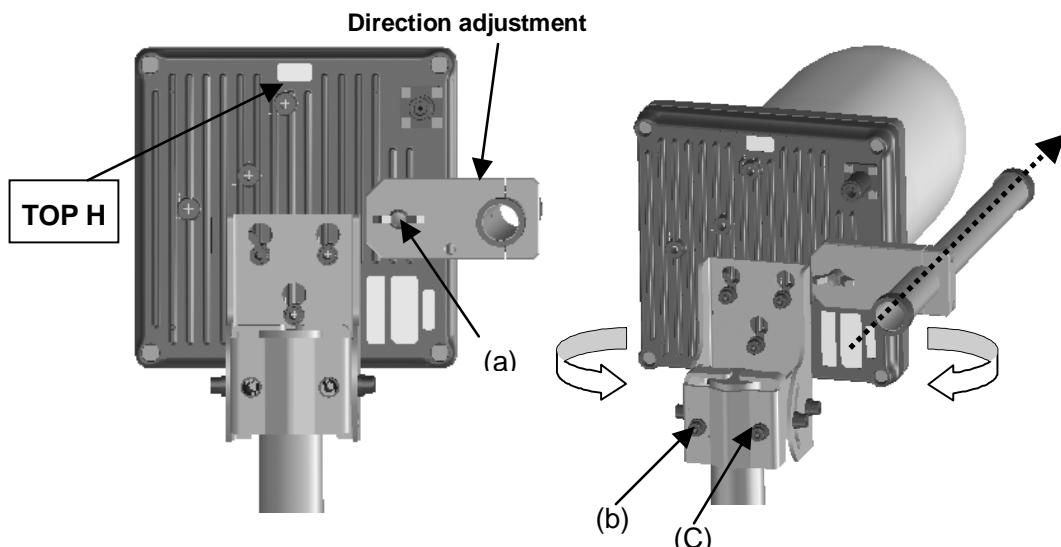

Figure 5-14 Attaching the Direction Adjustment tool    Figure 5-15 Adjusting the Horizontal Direction
- As shown in Figure 5-14, use the wing bolt (a) to attach the Antenna direction adjustment tool.